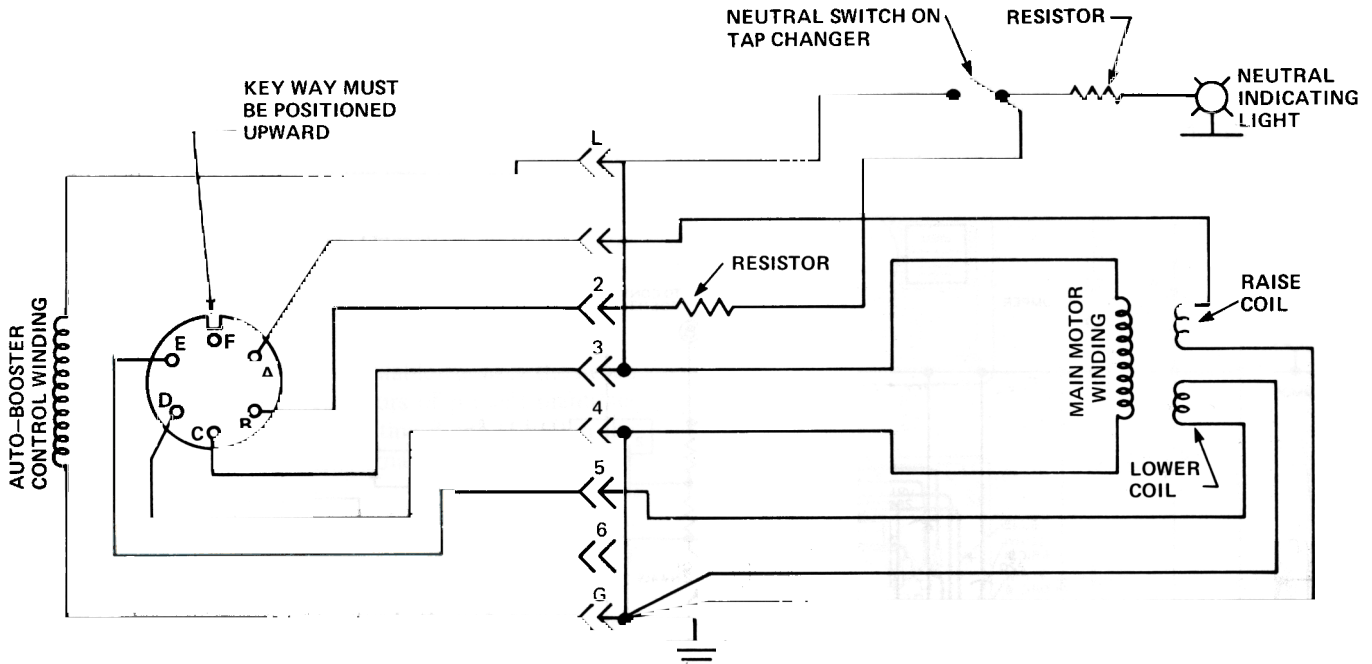

Figure 12
3. Older type controls, having no selector switch, require the removal of the control and the insertion of the shorting plug into the control receptacle (Figure 12). If boost unit, insert receptacle key in "1" or "L" slot, and if buck unit, insert key in "2" or "R" slot. The neutral light will come on indicating neutral position.
Normal operation of the tap changer is indicated when four distinct clicks can be heard from neutral to full range when the electronic control selector switch is turned to either the raise or lower position to initiate operation of the tap changer. If four clicks are not heard, the tap changer and shaded-pole motor combinations, its leads or the lead connections as shown in Figure 12 must be considered faulty.